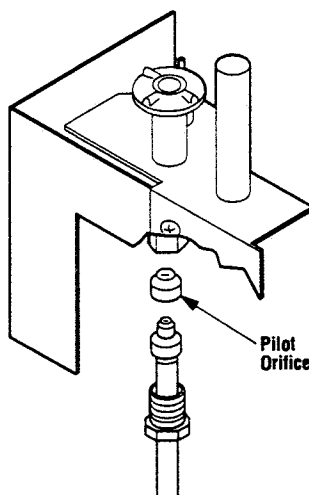

Figure 28
Step 6. Replace the pilot orifice with the one provided with the kit (*Figure 28*).